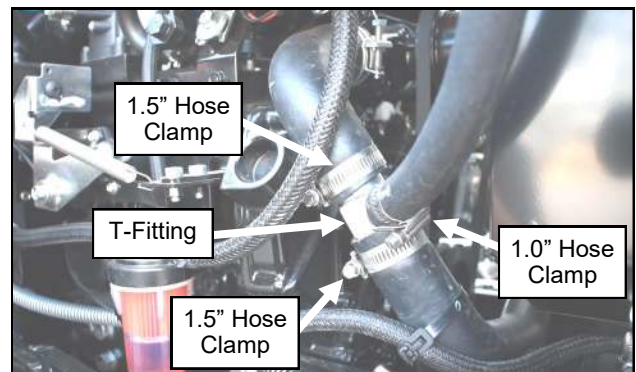

Figure 20.5 (Install T-Fitting in Lower Hose)
- 20.5** Place the two 1.5" hose clamps on either side of the cut lower radiator hose and install the T-Fitting provided. Place a 1" hose clamp on the 5/8" hose and attach to the T-Fitting as well. See Figure 20.5. Tighten the hose clamps.